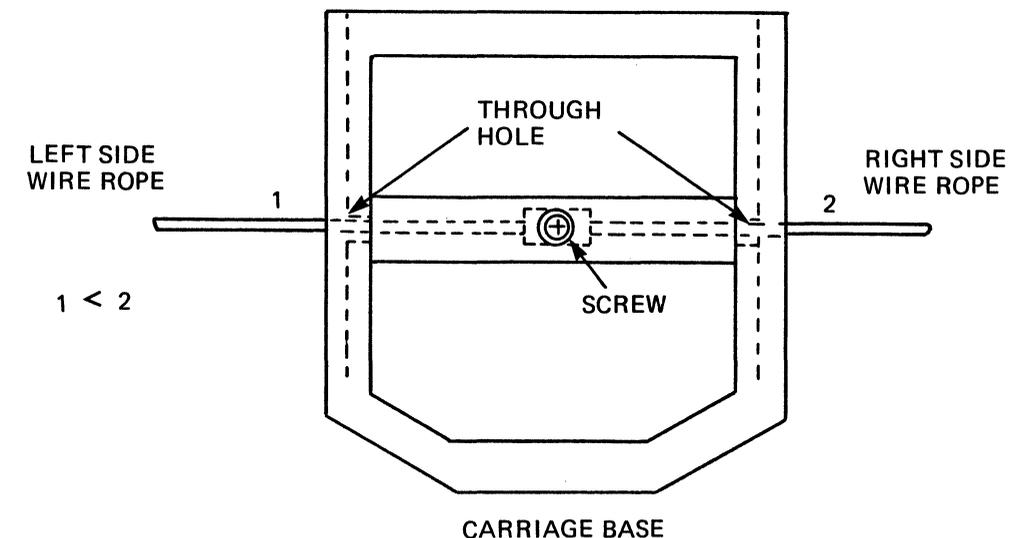

Figure 4-7 Initial Installation of Wire Rope
- a. Center the carriage base. Install the wire rope assembly under the carriage base as shown in Figure 4-7. Be sure that the left portion of the wire is shorter than the right.